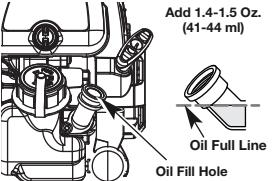

Fig. 24
5. Check the oil level. Oil should be just to the bottom of the threads of the oil fill hole. (Fig. 24).
6. If the level is low, add a small amount of oil to the oil fill hole and recheck (Fig. 24). Repeat this procedure until the oil level reaches the bottom of the threads in the oil fill hole.